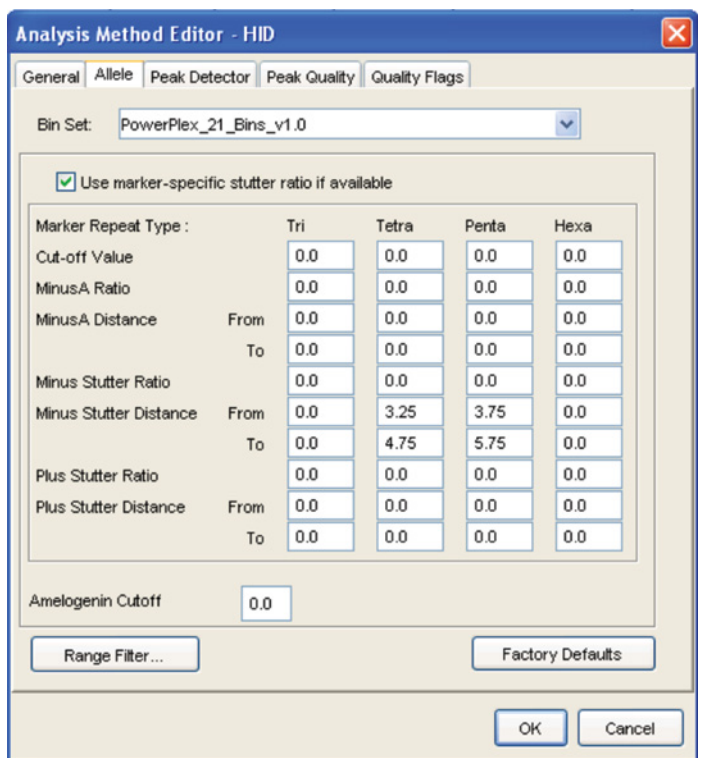

Figure 18. The GeneMapper® ID 'Allele' tab.
6. Select the 'Allele' tab (Figure 18).
9. Enter the values shown in Figure 18 for proper filtering of stutter peaks when using the PowerPlex® 21 System. For an explanation of the proper usage and effects of these settings, refer to the Applied Biosystems user bulletin titled “*Installation Procedures and New Features for GeneMapper ID Software 3.2*”.